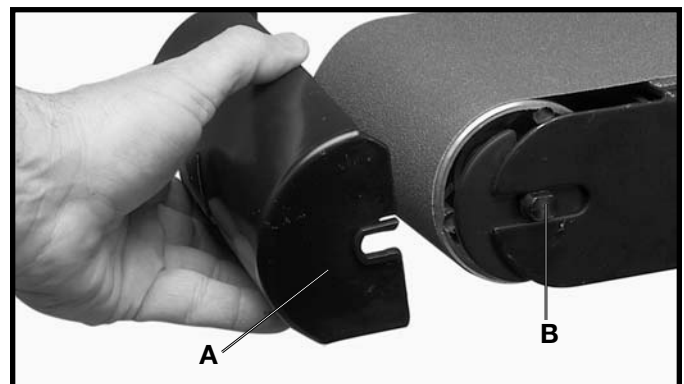

Fig. 39
The upper sanding drum guard (A) Fig. 39, can be removed easily, if necessary, when sanding inside curved work on the idler drum or changing belts.
1. Pull outward on guard (A).
2. After sanding operation is completed or belt changed, replace guard (A) Fig. 39, on two studs (B), one of which is shown.